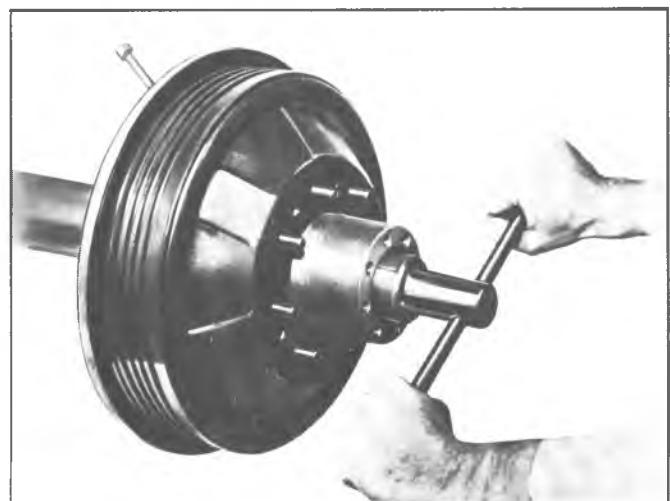

Fig. 68—Removing Lock Nut—Typical
2. Disengage tang of retainer from slot or flat of locknut, then remove locknut from housing tube, using appropriate tool, as shown in figure 68.